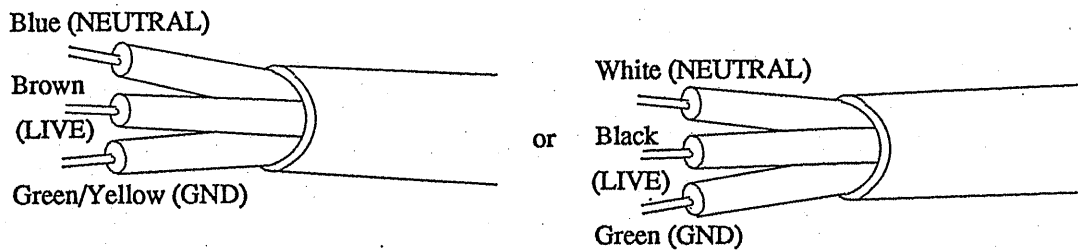

Fig. 1
- Power Cable: to 3-core cable (See Fig. 1 for the colors.)
To connect the AC Plug to the AC power cord, connect the respective pins of the AC Plug to the respective core-wires (LIVE, NEUTRAL, and GND) of the AC power cord by referring to the color codes shown in Fig. 1.